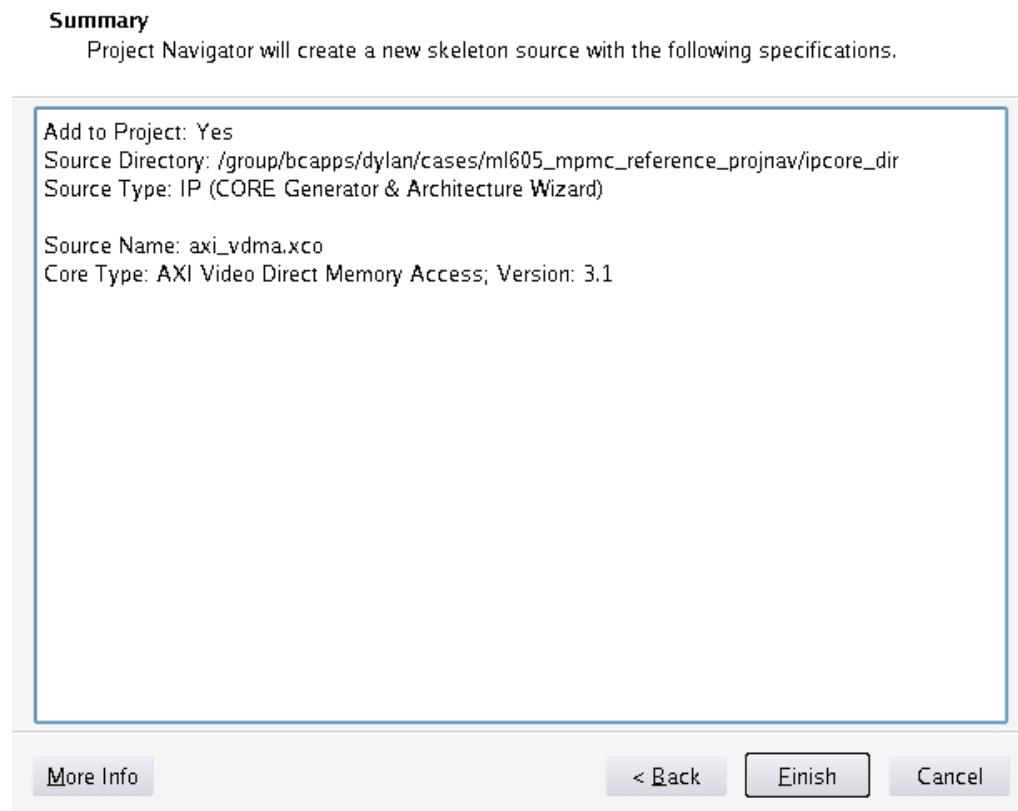

Figure 74: New Source Wizard - Summary Menu
68. Review the Summary page and click **Finish** (Figure 74).